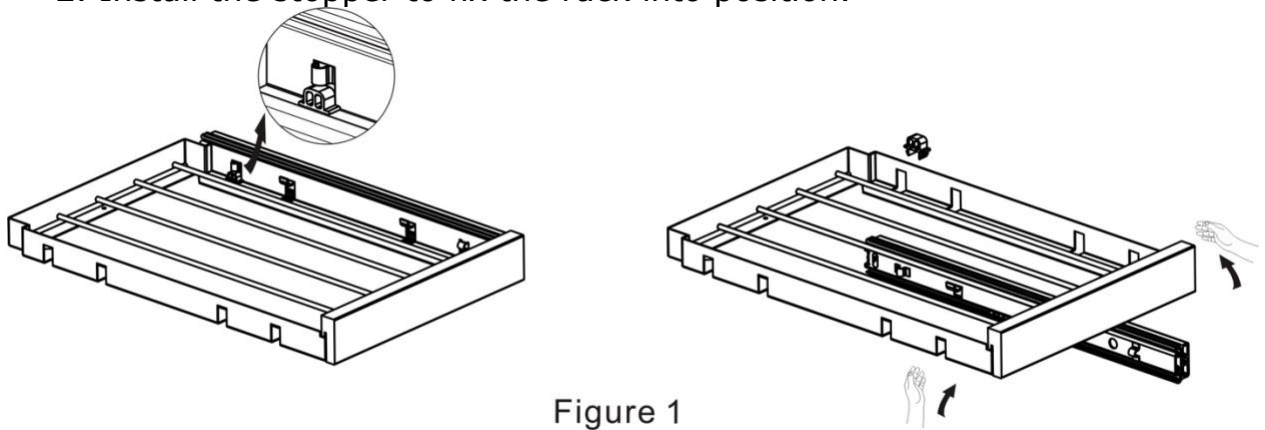

Figure 1
2. Remove the stopper from each side and gently pull up on the rack, then take out the rack. (See figure 1)